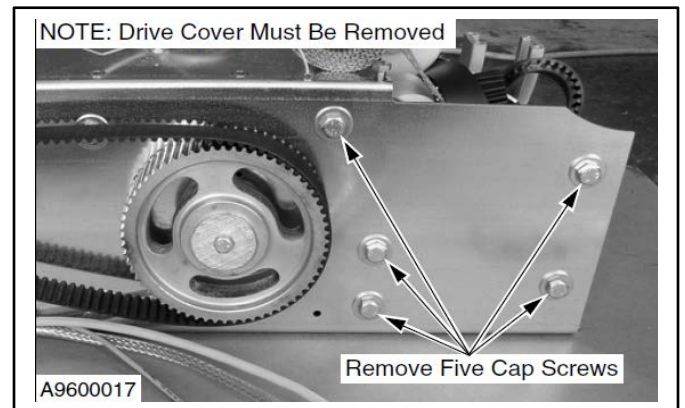

Figure 21
3. Remove cap screws on both consoles. Retain the fasteners to use for the installation of the console to the side columns. (See Figure 21 and figure 22.)